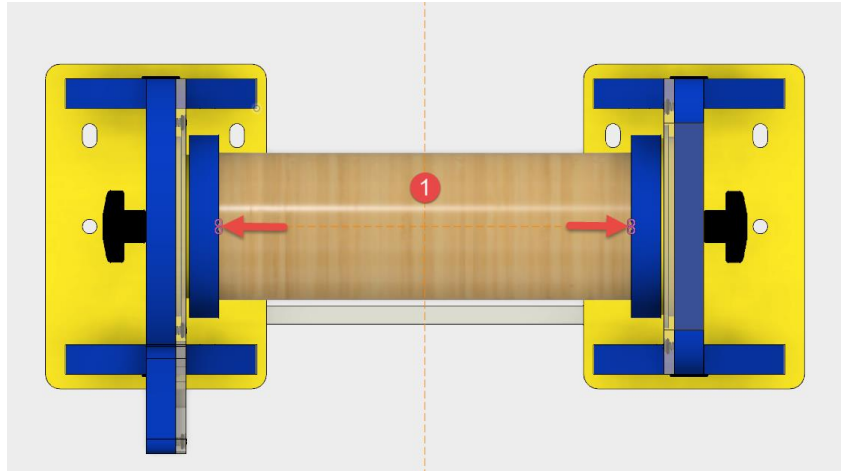

Figure 15
- 1) Touch off on the two mounting plates as shown by the two red arrows (Figure 15). If stock is larger than mounting plates, touch off on outsides of stock.